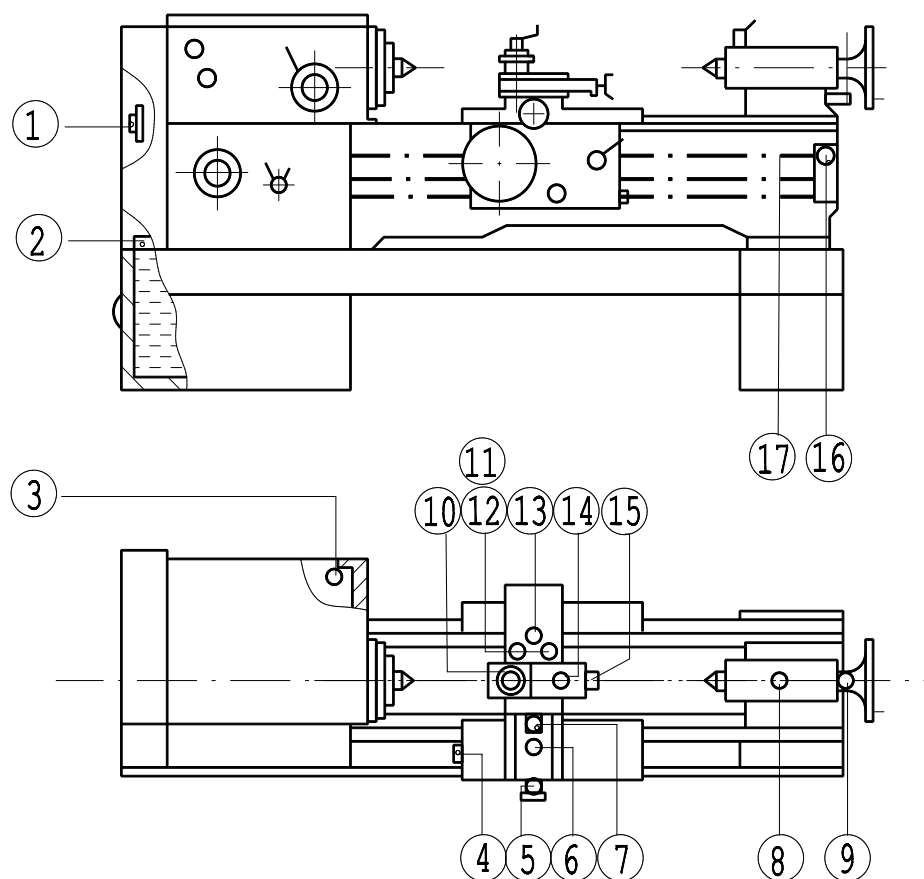

Fig.30 Distribution of lubricating points
For the distribution of lubricating points, refer to Fig. 30. They are marked with red on the machine.
- The headstock and the feed box adopt the external centralized pressure lubricating system. The oil tank (lubricating point (2) in Fig. 30) in the bed leg and that in the apron (lubricating point (4) in Fig. 30) should be renewed once every 50-60 days for the shops with two-shifts but for the first and the second changing oil time, it takes place for 10-20 days, thereafter, in order to discharge the dirt remained during trial running. After draining the used oil the oil troughs and wicks should be thoroughly washed with clean kerosene. Filter the oil before refilling. The oil level should not be less than the central line of the leveler.
- An oil tank is under the apron; oil lever in the tank should be always kept up to the mark of oil leveler. The apron is provided with oil storage. All bearings and worm in the apron are oiled by knitting wool. Apart of gears is immersed in oil. The other parts in the apron are lubricated by oil mist producing during rotating. If oil lever in the apron is below the oil mark of oil leveler, fill oil into the apron through the oil add hole (lubricating point (4) in Fig. 30).
- Lubricating oil for the bed ways and the carriage is supplied by oil from oil box (lubricating point (7) in Fig. 30) mounted inside carriage. Oil once a shift. Lubricating steps are as follows:
- The tool post and the small leadscrew (lubricating points 10,14,15, in Fig. 30) are lubricated by an oil gun. The slide and the cross leadscrew (lubricating points 11, 12, 13 in Fig. 30) are lubricated by an oil gun, too.
- There is a threaded plug on the shaft end (lubricating point 1 in Fig. 30 ) of change gear. Turn it every shift to make ZG-2 calcium base grease in the box to lubricate the shaft and the bush.
- The tailstock sleeve and the leadscrew transmission (lubricating points 8, 9, in Fig. 30) are lubricated by an oil gun once every shift.